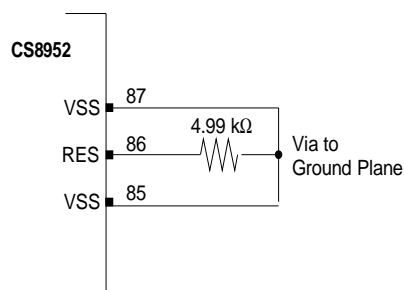

Figure 8. Biasing Resistor Connection and Layout
- The 4.99K reference resistor should be placed as close to the RES pin as possible. Connect the other end of this resistor to the ground plane using a via. Connect the adjacent VSS pins (pins 85 and 87) to the grounded end of the resistor forming a shield as illustrated in Figure 8.